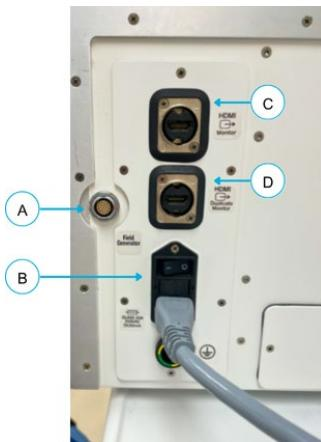
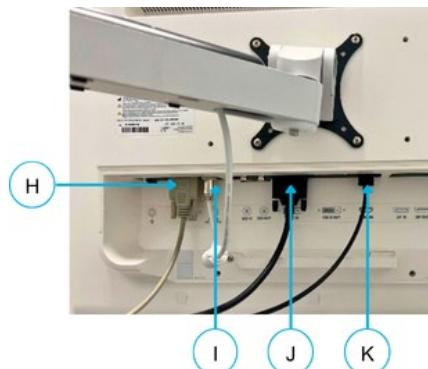

Figure 10-3: Generator Ports
Figure 10-4: Figure: Generator to Monitor Connections
5. Use the **Serial Cable DB9** to connect the Vanquish Generator to the Monitor (see **Figure 10-4**).
■ **NOTE:** Ensure that the power cable for the monitor is connected to the DC-IN port (**I** in **Figure 10-4**).
6. Use the **HDMI to HDMI cable** to connect the Generator to the Monitor (see **Figure 10-3** and **Figure 10-4**).
- Monitor port (**J**) labeled 'DVI-D IN' (**Figure 10-4**)
1. Flip the power switch on the back of the Generator (labeled O/-) to the **ON** position (**B**) (**Figure 10-3**).